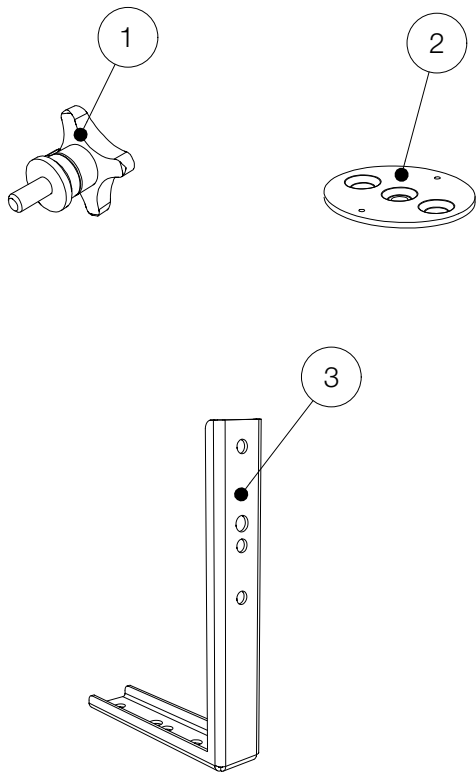

Figure 2.1 - Overview
Mount the SBM6 swivel bracket to the M6 loudspeaker using pos.1 (see figure 2.1) .